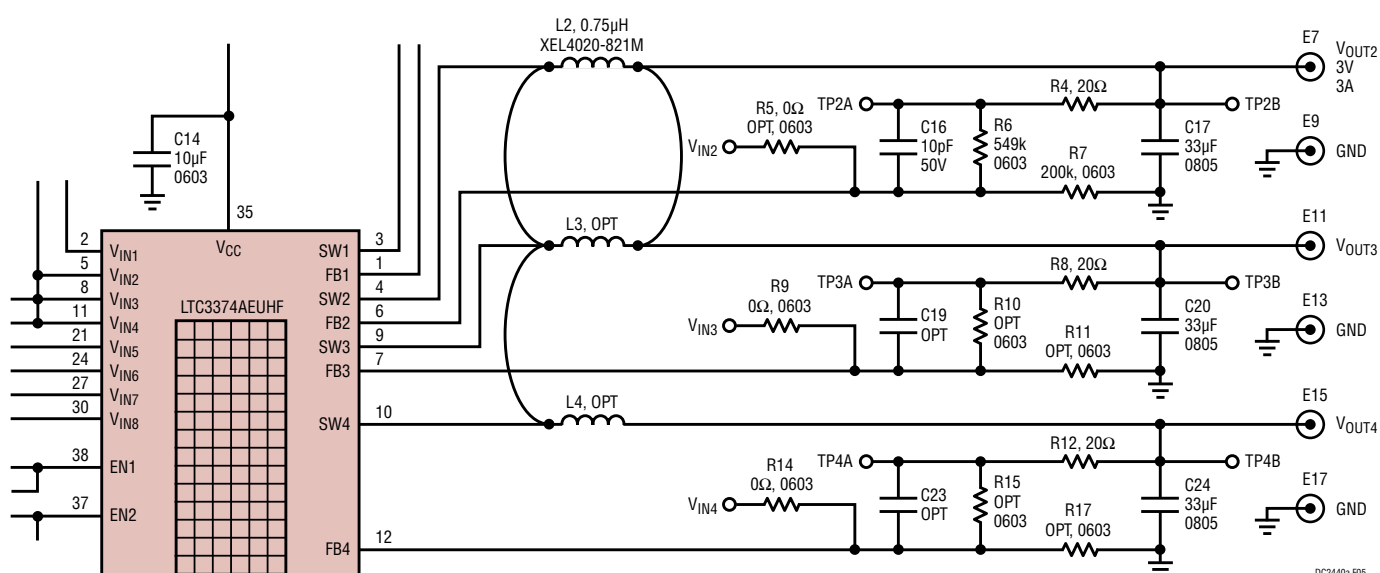
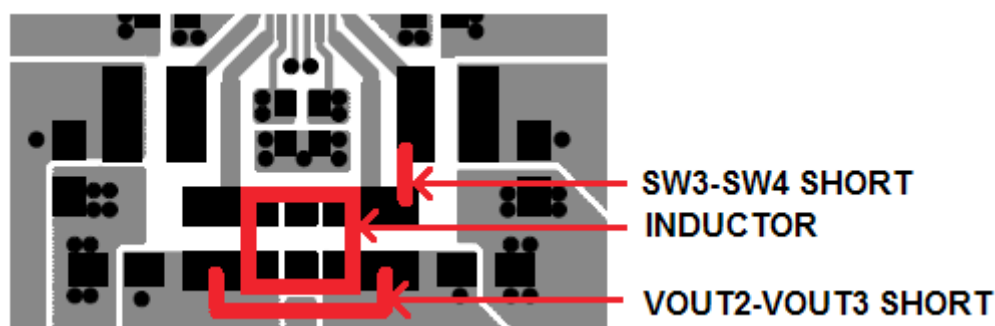

Figure 5. Combined 3A Output Regulators 2, 3, 4
Figure 6. Combined 3A Regulator Inductor Placement and Connections
To combine regulators 2, 3 and 4 for a 3A output, perform the following steps and refer to Figure 5 and Figure 6:
2. Add an appropriate size inductor that can handle the 3A output at current limit. The inductor should be placed across the L2, L3, pads and the copper between the pads as shown in Figure 6. The inductance should be reduced to about 1/3 for a 3A output. A 0.75 μ H inductor is recommended for a switching frequency of 2MHz. Refer to Table 3 of for recommended inductors.
3. Short SW3 and SW4 together at the L3 and L4 SW pads as shown in Figure 6.